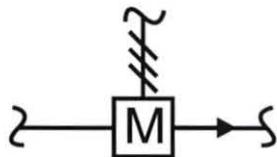

Figure 47. Flow Sensing Element Symbol
1. Determine what type of flow sensing element symbol is shown in figure 47.